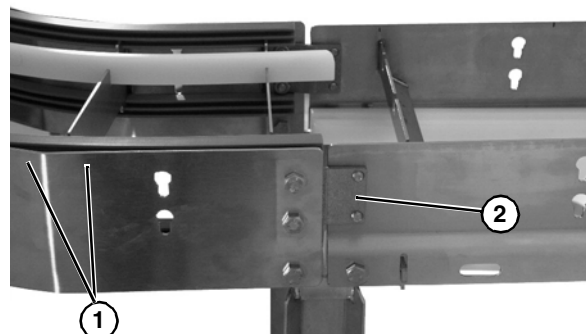

Figure 17
5. When securing straight section to curved section on outside curve (**Figure 17, item 1**) make sure offset plate (**Figure 17, item 2**) is to the outside of straight section.